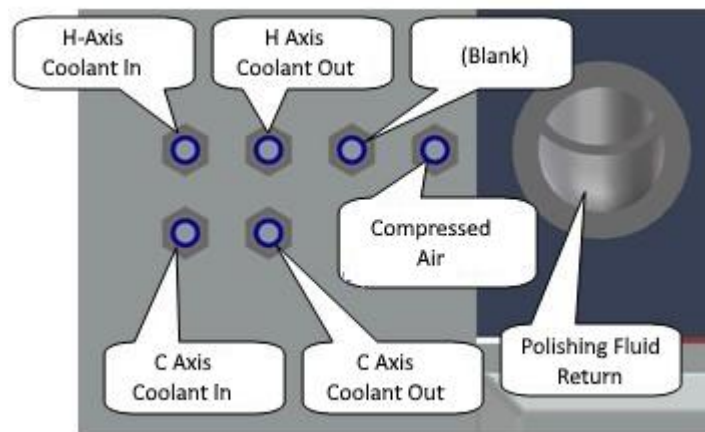

Figure 2 - Supply connections
The pressure at the compressed air supply must be 2 bar. The maximum pressure is limited to 6 bar on the pressure controller within the compressed air conditioner. The supply line must be equipped with a shut-off valve and adequate water trap / refrigerator system on the mains side. The compressed air line is connected on the left-hand side of the machine by means of a 10 mm fabric hose. See (Figure 2).
The polishing fluid supply hose is connected at mid-height at the left-hand side of the machine, see (Figure 2) via the external slurry on/off valve (not shown).
The return hose is connected to the machine via a 32 mm hose connection at mid-height at the left-hand side of the machine. see (Figure 2).
- Connect the hose to the appropriate LEGRIS connection adapter (SW32) of the machine. See (Figure 2).
- Connect the drainpipe to the pipe fitting (DN40) in the panelling and to the polishing fluid unit. See (Figure 2).